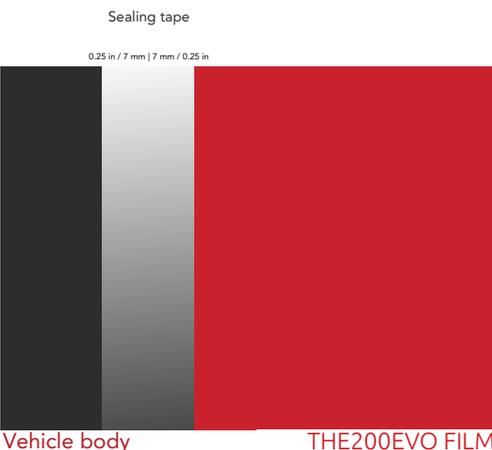

Figure 08
- › Apply the strip by overlapping it by approximately 7 mm (¼ in.) over the body work and 7 mm (¼ in.) over the THE200EVO film. (FIG. 08)